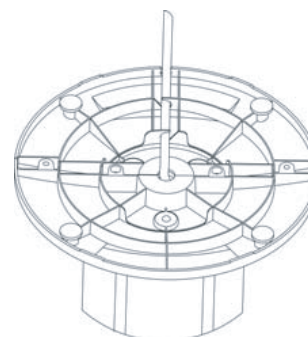

Fig 4
4. Place wire through wire holders as shown in Fig. 4.